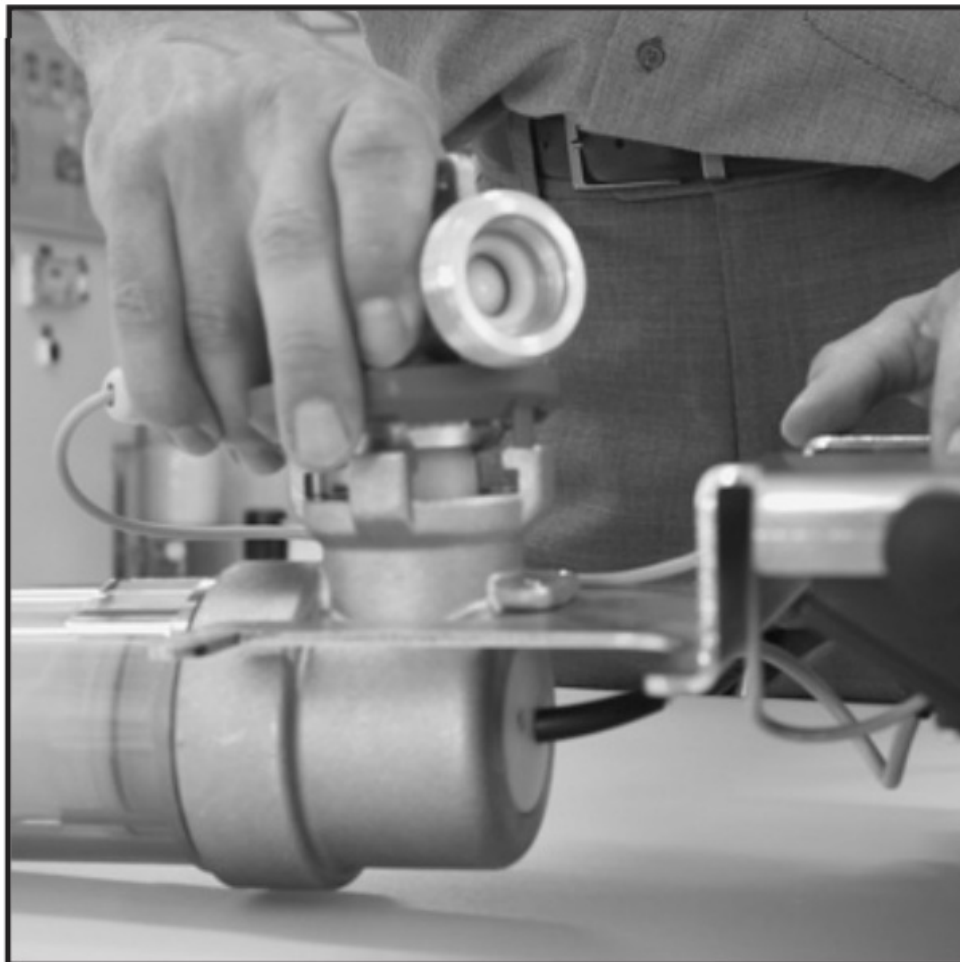

Fig. 6
- **e.** Turn the connection 45° anticlockwise and remove it (see Fig. 6).